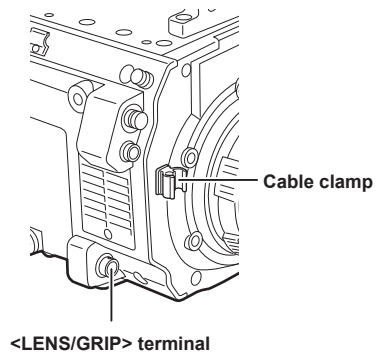

Fig. 4
- 4 If a cable is attached to the lens, secure the cable through the cable clamp and connect it to the <LENS/GRIP> terminal. (Fig. 4)